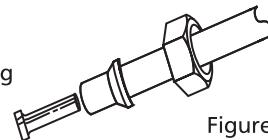

Figure 1
- 4** Install faucet adapter fitting to faucet. *To prevent damage to fitting, do not over-tighten.* Insert a section of plastic tubing into fitting, ensuring the end of the tubing is firmly seated to backstop. (See Figure 1)